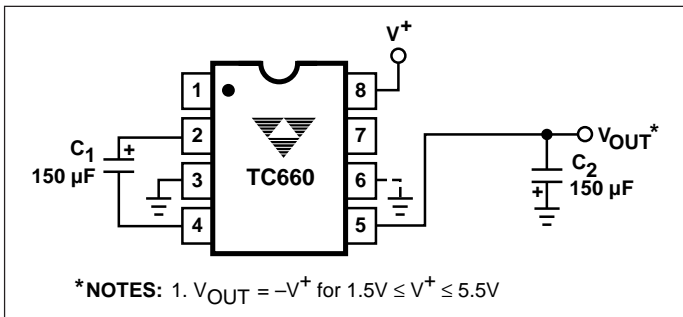
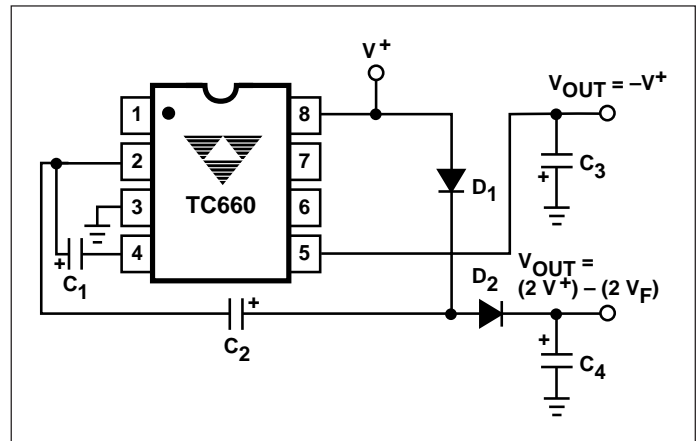

Figure 3. Simple Negative Converter
Figure 10. Combined Negative Converter and Positive Multiplier
Figure 3 shows typical connections to provide a negative supply where a positive supply is available. A similar scheme may be employed for supply voltages anywhere in the operating range of +1.5V to +5.5V, keeping in mind that pin 6 (LV) is tied to the supply negative (GND) only for supply voltages below 3.0V.
The output characteristics of the circuit in Figure 3 are those of a nearly ideal voltage source in series with 6.5Ω . Thus, for a load current of $-100mA$ and a supply voltage of $+5V$, the output voltage would be $-4.35V$.
Figure 10 combines the functions shown in Figures 3 and 8 to provide negative voltage conversion and positive voltage multiplication simultaneously. In this instance, capacitors C1 and C3 perform the pump and reservoir functions, respectively, for the generation of the negative voltage, while capacitors C2 and C4 are pump and reservoir, respectively, for the multiplied positive voltage. There is a penalty in this configuration in that the source impedances of the generated supplies will be somewhat higher due to the finite impedance of the common charge pump driver at pin 2 of the device.